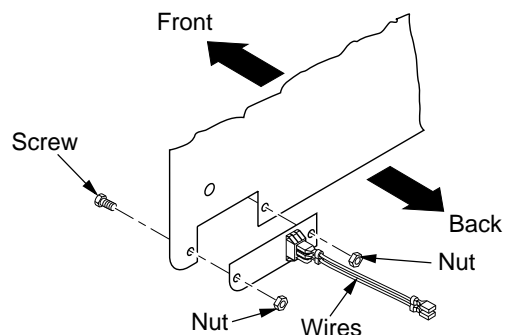
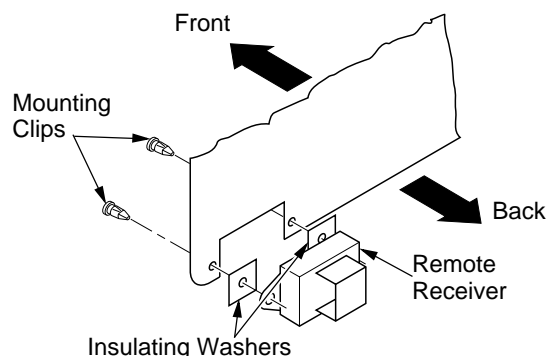

Figure 26 - Switch Plate and Wiring Harness (Switch Plate and Orientation May Vary Depending On Model)
Figure 27 - Installing Remote Receiver
3. Remove switch plate (see Figure 26). Discard after removing.
4. Install remote receiver unit onto gas log heater base using clips (2) and insulating washers provided.
5. Push clips firmly into place (see Figure 27).